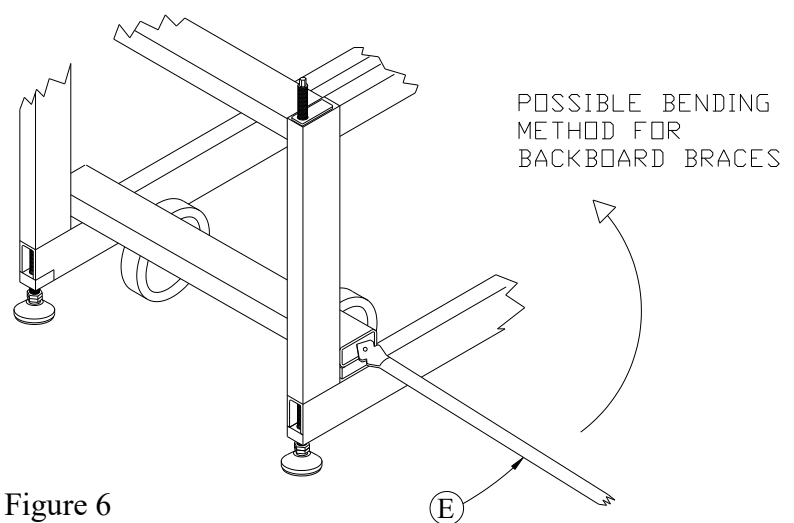

Figure 6
7. Adjust the *Breakaway Goal* (L) and the *Backboard* (J) until they are level. Tighten the *Breakaway Goal Hardware* (M) making sure that the *Backboard* (J) remains level left to right and perpendicular to the floor.
8. Without attaching *Backboard Braces* (E) to the unit, raise the goal to the official playing position.
9. Measure the *Breakaway Goal* (L) height and if necessary adjust the two front *Foot Pads* (B) up or down equally as needed to get the front of the rim to an official 10' height. Make sure that the entire *Portable Base* (A) is still level left to right.
10. If the *Backboard* (J) is perpendicular to the floor **and** if the *Backboard* (J) **and** *Breakaway Goal* (L) are level in every direction **and** the *Breakaway Goal* (L) is at 10', lower the unit to the storage position.
11. On backboard corners install “L” Brackets (C) with 3/8” carriage bolts, flat washers and hex nuts included with the *Backboard Hardware* (K). **Leave hardware finger tight only.** The brackets need to rotate to fit with *Backboard Braces* (E).
12. In order to attach the *Backboard Braces* (E) you will have to bend one end of the *Backboard Braces* (E) that attach to the extension arm. This is best accomplished with a vice, however if one is not available you can use the opening indicated in figure 6 to bend the brace. The brace should be bent at such an angle that the unbent ends of the *Backboard Braces* (E) fit securely to the “L” Brackets (C).